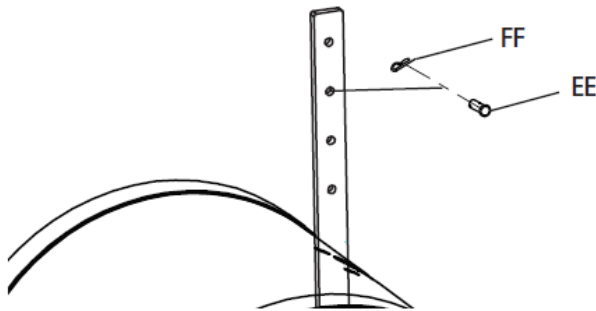

Figure 1-14
Adjust the depth regulator lever to desired tilling depth. Insert the clevis (EE) and cotter pin (FF) to secure depth regulator to desired depth. See Figure 1-14.